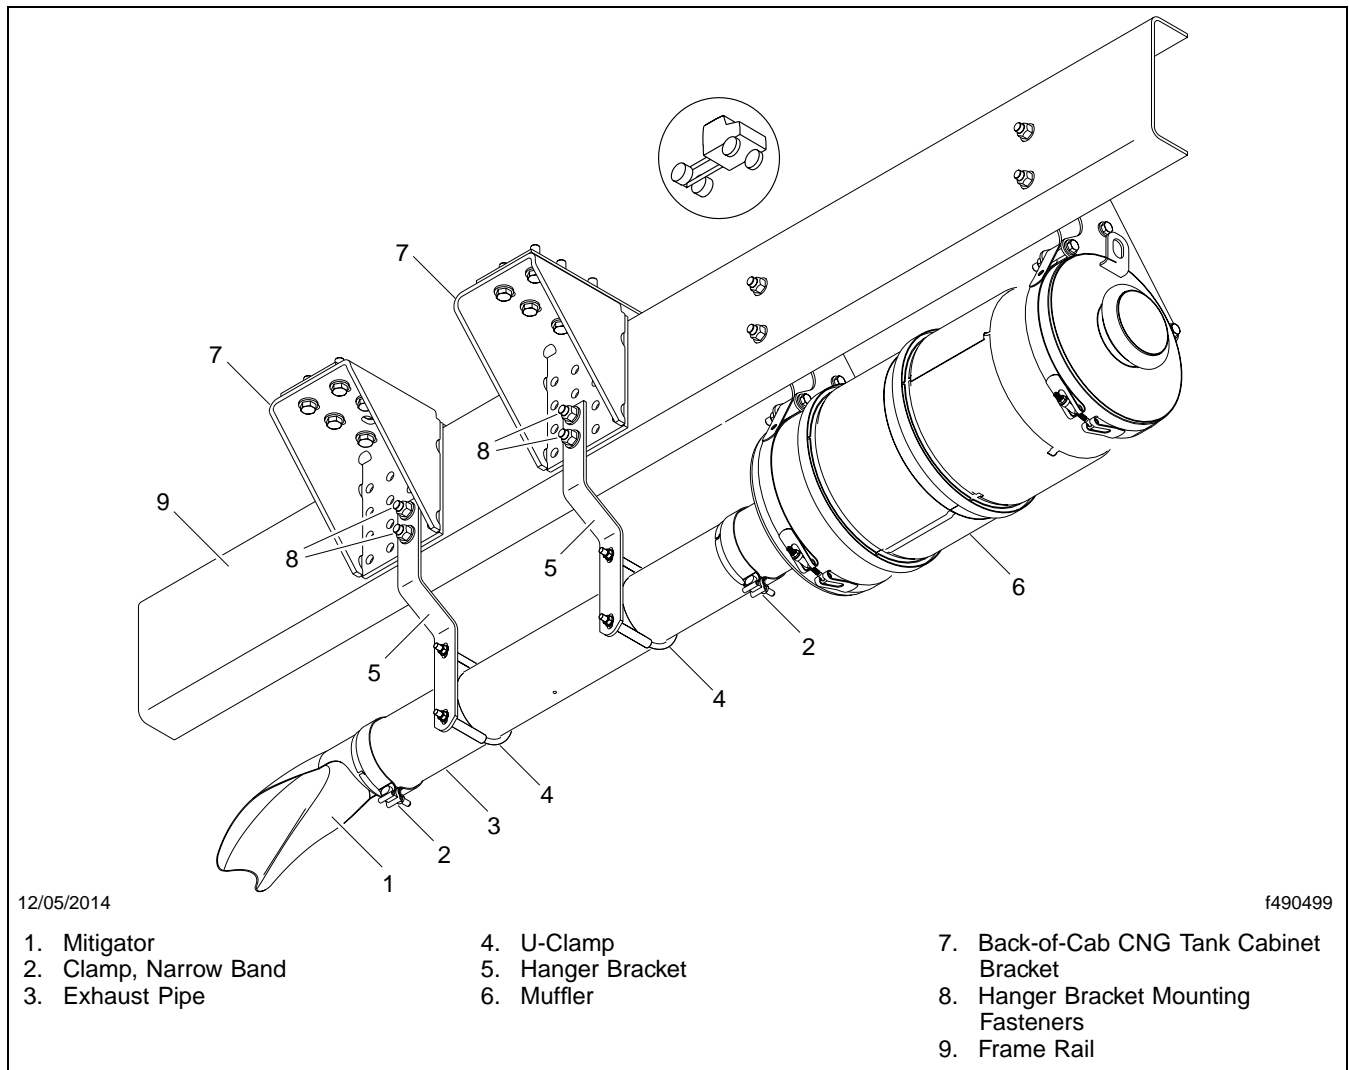

Fig. 1, Exhaust Pipe Installation, Two Hangers
4. Vehicles in FL671A-C require two hanger brackets. Refer to **Fig. 1** on page 8 for installation, then proceed to step 5 on page 10.
11. Orient the pipe and mitigator assembly to the hanger brackets and orient the mitigator outlet facing the ground. Install the U-clamps from the hardware kit. See **Fig. 1**. Tighten the clamp nuts 20 to 26 lbf·ft (27 to 35 N·m).